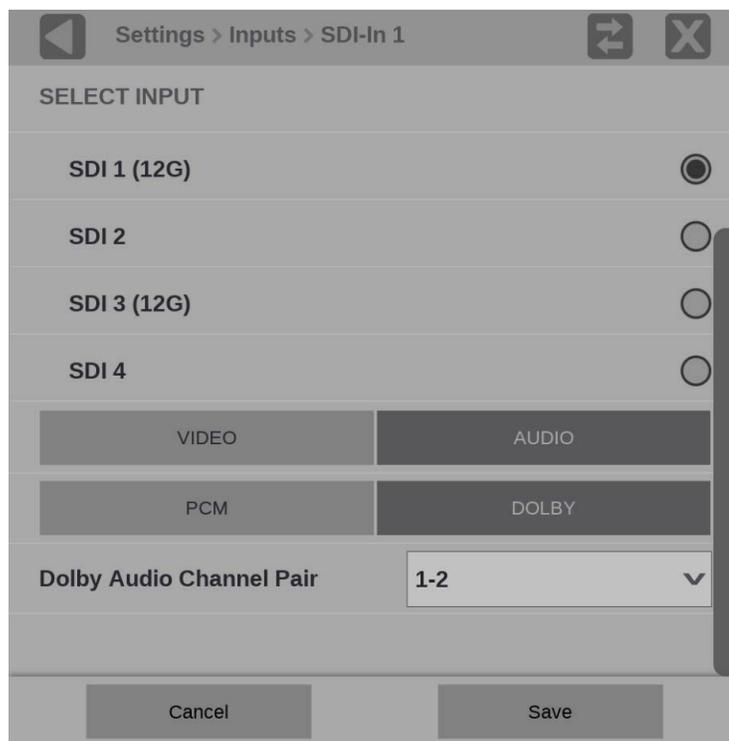

Figure 32: Audio signal settings
1. Select **AUDIO**. (See Figure 32.)